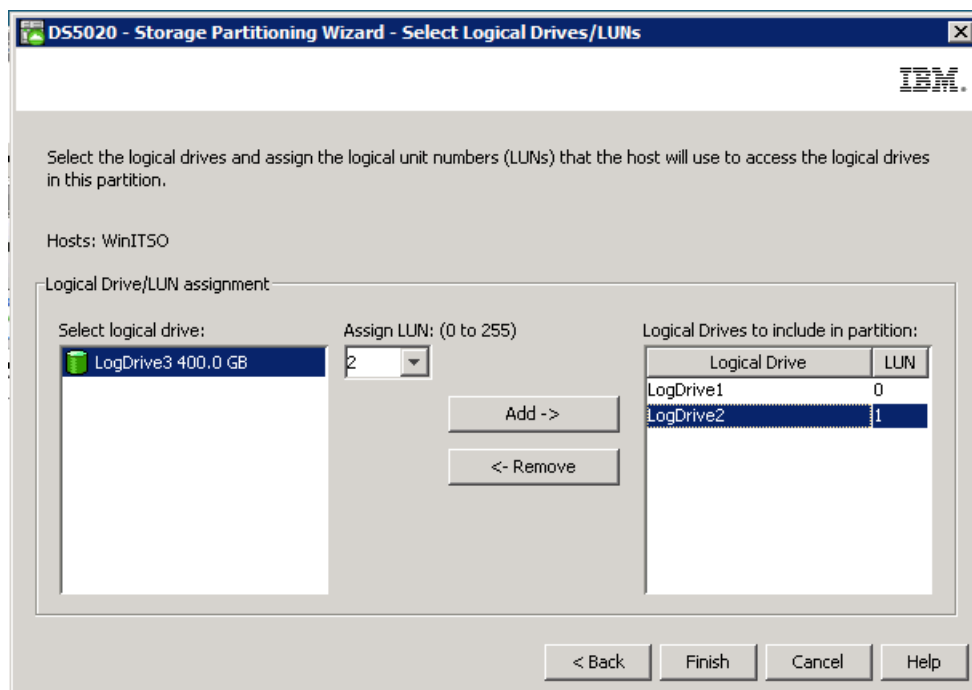

Figure 3-76 Storage Partitioning wizard: Selecting logical drives/LUNs
3. The next window allows you to select the logical drives that are going to be mapped to the host or the group. You also have to specify a LUN for each logical drive. In our example, shown in Figure 3-76, we selected LogDrive1 and LogDrive2. We assigned the LUNs 0 and 1, respectively, to these two logical drives.